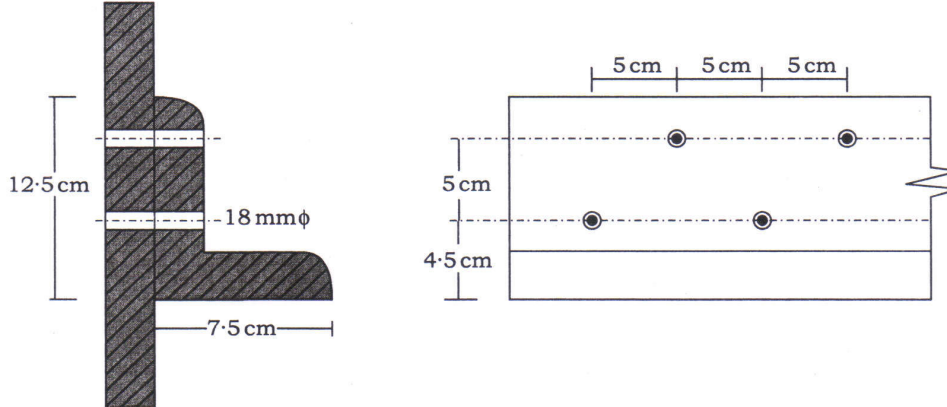

Fig. 1(e)
- (e) An unequal angle ISA $125 \text{ mm} \times 75 \text{ mm}$ is required to carry a tensile load of 160 kN . The angle section is connected to the gusset plate through the longer leg by 18 mm dia bolts as shown in Fig. 1(e) below. Select a suitable thickness for the angle :